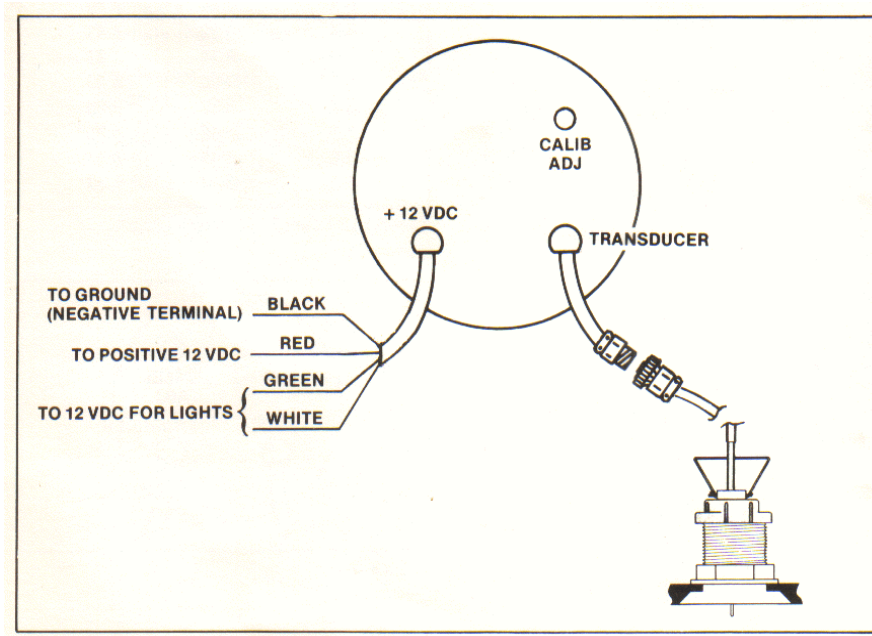

Figure 3.7
6. Your MK 267 is designed to be connected to standard 12 VDC power source. The indicator 12 VDC cable mates with the included power cable. This cable can be connected to a switch panel, dimmer, or directly to the battery. (See Figure 3.7).